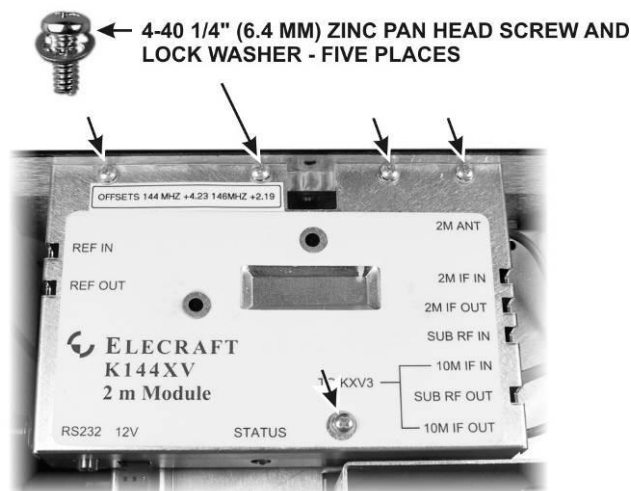

Figure 10. Removing the K144XV 2 Meter Module.
- ☐ The K144XV module is mounted on the left side panel of the K3. Remove the five screws shown in Figure 10 and lift the top cover off of the module. Note: Some units may have a sixth screw in the hole near the Elecraft name on the top cover that must be removed.